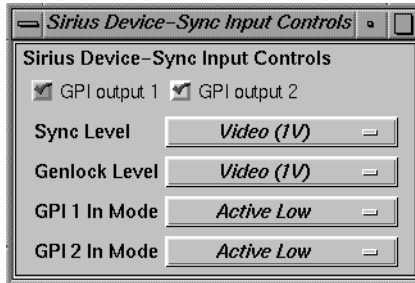

Figure C-9 Setting Genlock Voltage Level
- To set the voltage level for the genlock sync source, use the *vcp* Pro menu. In the Pro menu, select “Device Controls”, and then select “Synchronization Controls.” The Sirius Device-Sync Input Controls window appears, as shown in Figure C-9.